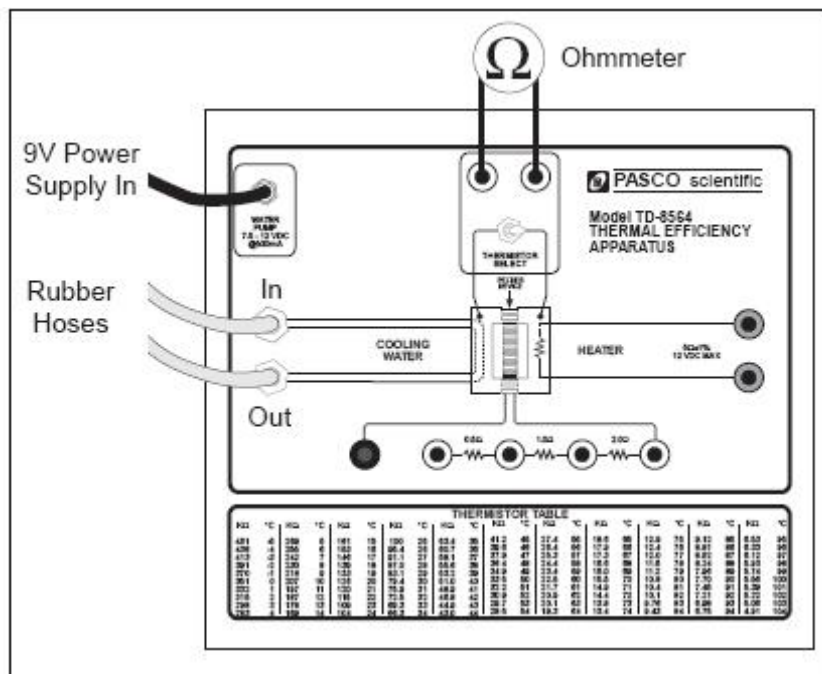

Figure 21.4: Thermal Efficiency Apparatus
The temperatures of the hot and cold reservoirs are determined by measuring the resistance of the thermistor imbedded in the hot or cold block. To do this, connect an ohmmeter to the terminals located as shown in Figure 21.4. The switch toggles between the hot side and the cold side. The thermistor reading can be converted to a temperature by using the chart located on the front of the Thermal Efficiency Apparatus and in Table 21.1. Notice that as the temperature increases, the thermistor resistance decreases (100 kΩ is a higher temperature than 200 kΩ).
1. Prepare the ice-water bath and immerse both rubber tubes from the Thermal Efficiency Apparatus into the bath (Figure 21-4).